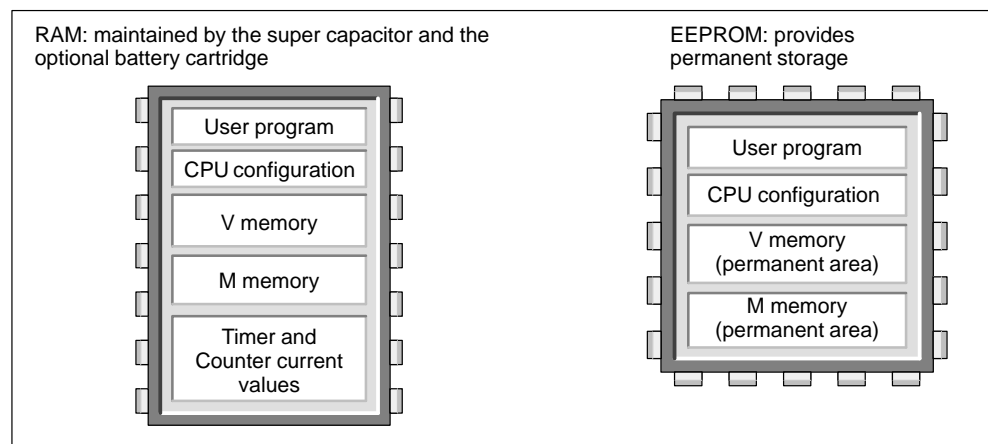

Figure 7-11 Storage Areas of an S7-200 CPU
- The CPU provides an EEPROM to store permanently all of your program, selected data areas, and the configuration data for your CPU. See Figure 7-11.